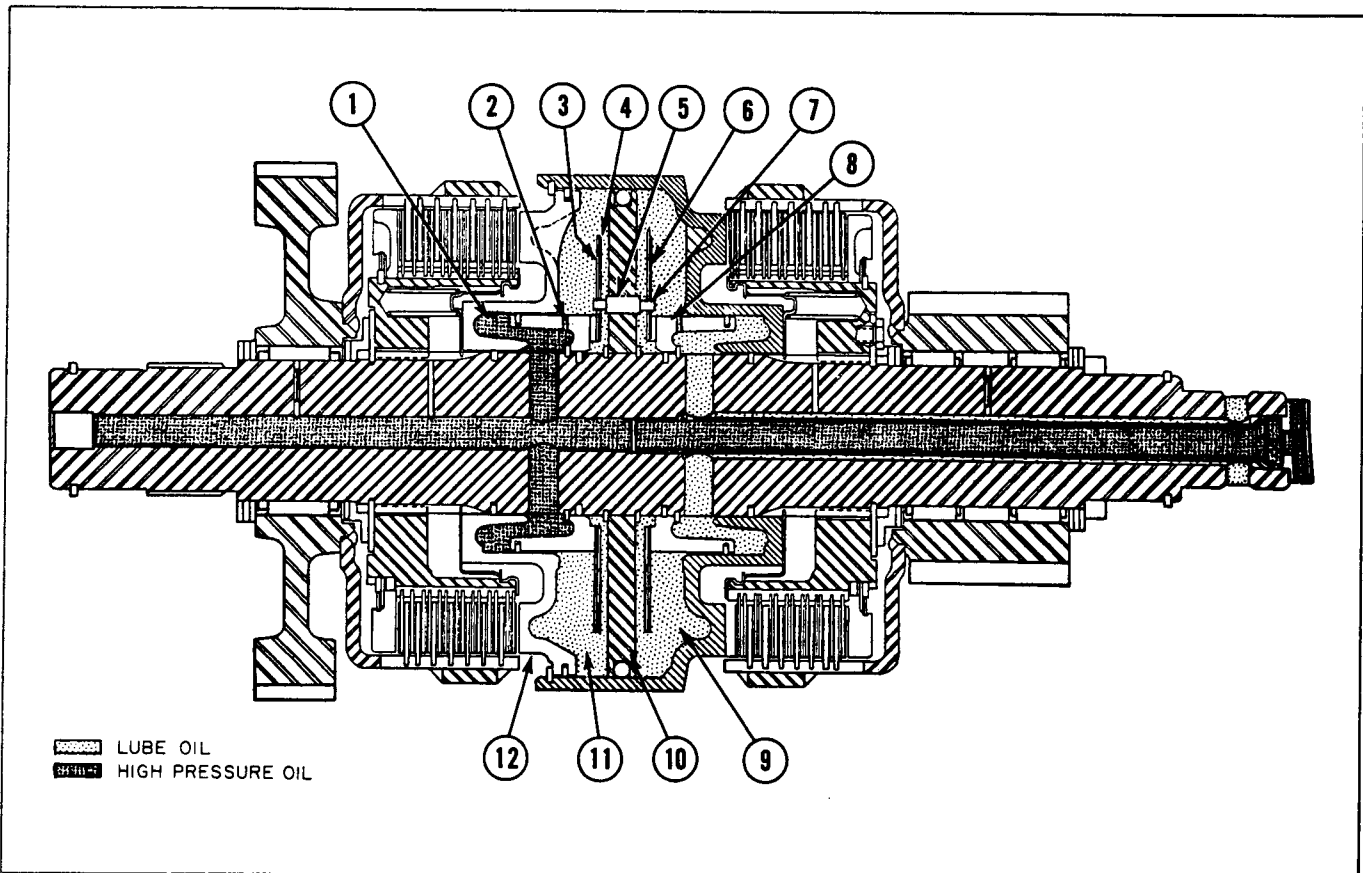

Figure 1-28
Upon clutch application the range selector valve or directional control valve, depending upon the clutch selected, directs high pressure oil through passages in the clutch shaft to the accelerator piston cavity (1, Fig. 1-28). The accelerator piston (2) immediately moves toward the separator plate (10), pushing the disc valve (3) and reinforcing disc (4) against the separator plate.